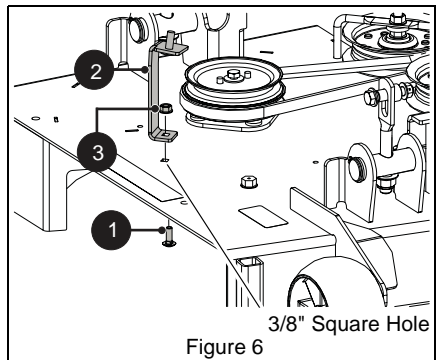

Figure 6
1. Locate 9/32" square hole near discharge opening and remove 5/16" self-tapping screw (if present). Attach belt cover support bracket (item 2) at angle shown using one 1/4" x 3/4" round head square neck bolt (item 1) and one 1/4" top lock flange hex nut (item 3). See Figure 6.